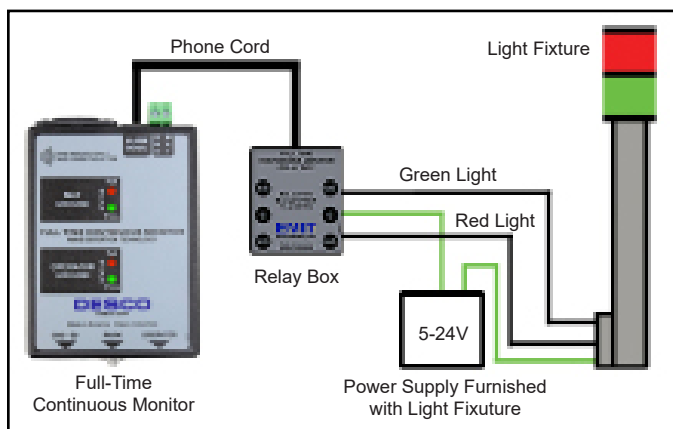

Figure 6. Installing the Relay Box and Full-Time Continuous Monitor to a Light Fixture
4. Make the proper connections to your targeted device (light fixture, door lock, etc.). Use Figure 6 as a guide.